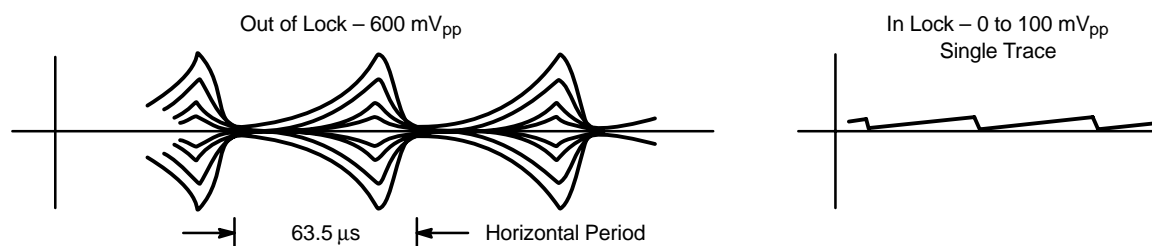

Figure 9. VCO Lock – Voltage at Pin 7
If the required chroma is present at Pins 4 and 5 (same as Pin 24), and if the oscillator is known to be running, then lockup is just a matter of adjusting the trimmer on Pin 9. As noted earlier, the scope probe cannot be put on the oscillator for this adjustment. Instead, put the scope on the APC filter, Pin 7. Waveforms as shown in Figure 9 will be observed as the trimmer is adjusted.
4. Put the oscilloscope probe on Pin 7 of the TDA3330. Adjust the Variable Capacitor, connected to Pin 9, until the VCO is In Lock. This will happen when the trace signal drops from ~650 mV_{pp} to less than 100 mV_{pp}. Try to make the signal as small as possible, possibly down to dc. (Make tilt flat.) Note: See Figure 9.